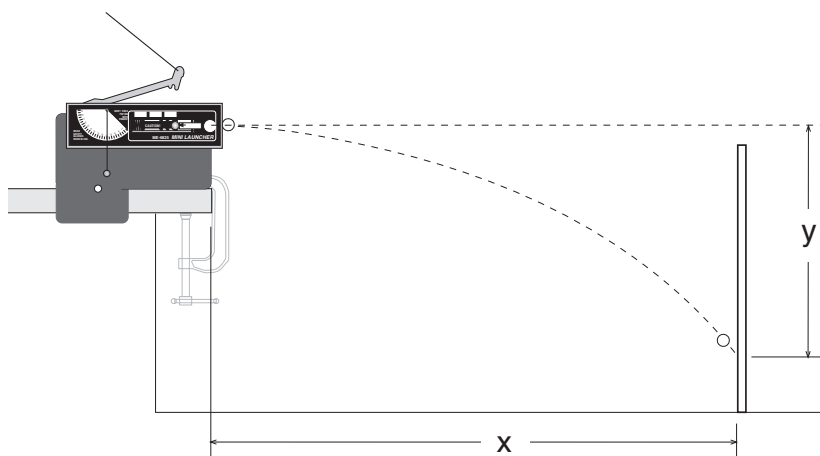

Figure 4.1: Setup
- ① Clamp the Mini Launcher near one end of a sturdy table with the Launcher aimed away from the table.
- ② Adjust the angle of the Mini Launcher to zero degrees so the ball will be launched horizontally.
- ③ Fire a test shot on the long range setting to determine the initial position of the vertical target. Place the target so the ball hits it near the bottom. See Figure 4.1.
- ④ Cover the target board with white paper. Tape carbon paper (carbon side down) over the white paper.